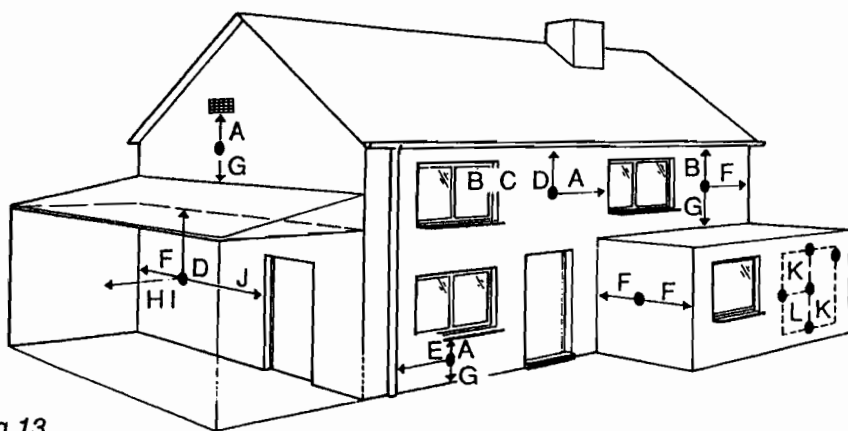

Fig. 13
**6.6.8** The flue must be positioned such that the combustion products produced can disperse freely at all times - refer to Fig. 13